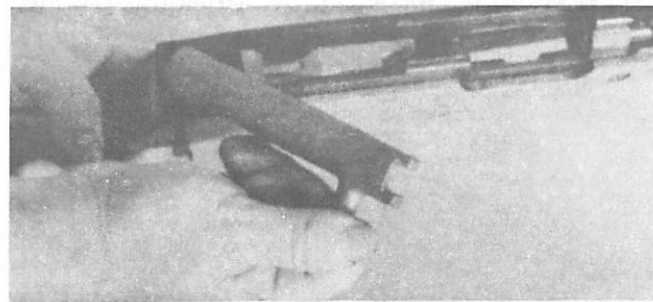

Fig. 11
3. Remove the bolt assembly by grasping the bolt handle and pulling this part back to the rear and out of the receiver (Fig. 11).